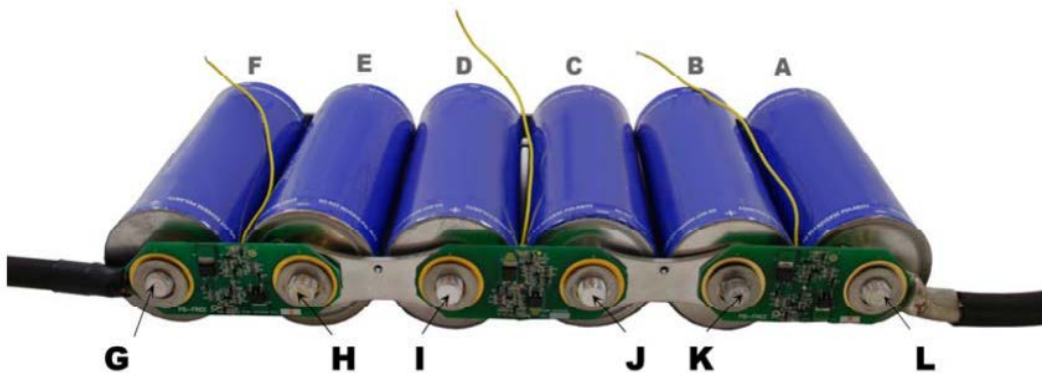

Figure 10
3.2.9 Place a washer over each threaded terminal on top of the voltage management boards. (G –L, Figure 10)